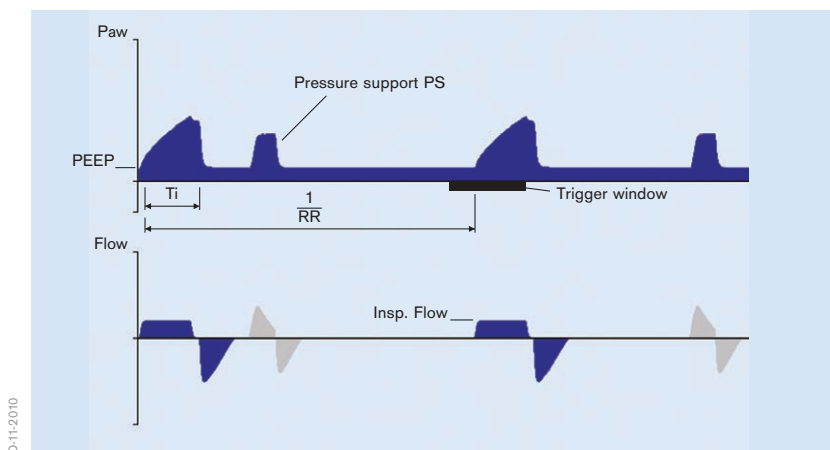

Figure 12: VC-SIMV
- permitted spontaneous breathing during the expiration phase on PEEP level (Figure 12)